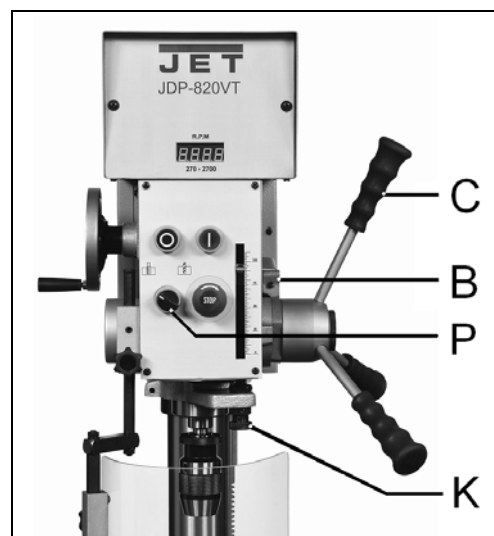

Fig 5
To drill multiple holes at the same preset depth, use the depth stop (K, Fig 5)Fig 5.
1) Set the select switch (P, Fig 5) to the "Tapping" position.
2) Set the depth stop (K) to the desired position.